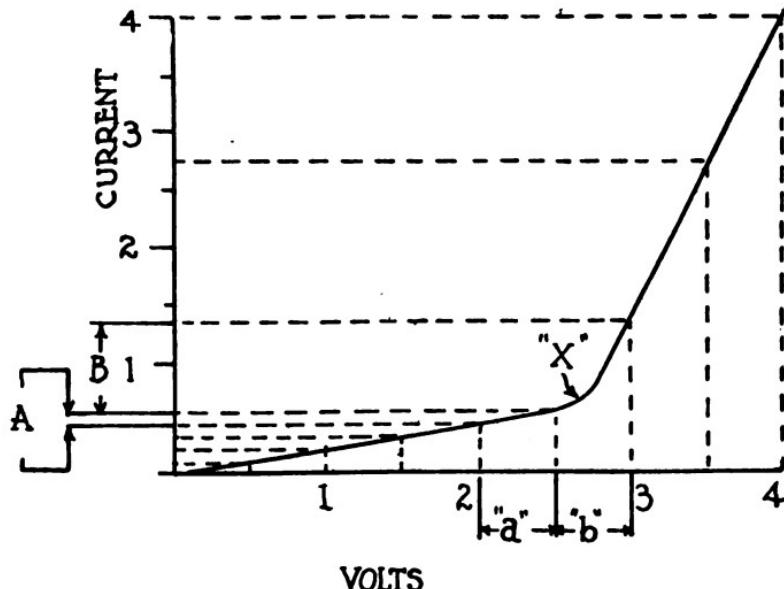

Fig. 70—Change of Current in a Carborundum Detector With Change in Voltage
In Fig. 70 we will now study the action that takes place when the voltage across a carborundum detector is changed. Starting at the lower left-hand corner we see that for slight increases in voltage the current increases steadily. At a certain point, however, which we call (X) an increase in the voltage begins to make a more pronounced rise in the current, and continued increase in voltage again creates an additional current flow. Another way to look at it is that the resistance to flow across the contact of the blunt point with the crystal has been suddenly reduced, and it is this peculiar property of the carborundum detector which enables us to use it in radio receiving.
the crystal, which on the curve in Fig. 70 would mean that the condition was represented by the point just below the point (X). Now if at the same time that we have $2\frac{1}{2}$ volts across the crystal and the current of $\frac{1}{2}$ unit going through it we apply the oscillating or alternating voltage, we
difference, or 2 volts, acting on the crystal. This gives a rise of (*b*) in volts (see Fig. 70) which produces a rise of (*B*) in the current. On the other hand, a drop of (*a*) volts (Fig. 70), which is the same as (*b*), gives a very small drop (*A*) in the current, compared to the rise at (*B*).
Now, by adjusting the slider on the potentiometer, we can maintain a voltage equivalent to the point (*X*) in Fig. 70, so that there will be a comparatively heavy current through the detector and phones in one direction, and hardly any in